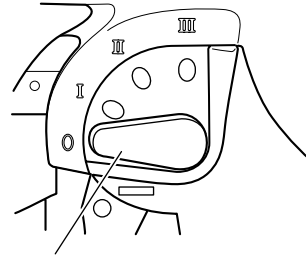

Fig. 11
(1) This Jig Saw employs orbital operation which moves the blade back and forth, as well as up and down. Set the change knob shown in Fig. 11 to "0" to eliminate the orbital operation (the blade moves only up and down). The orbital operation can be selected in 4 steps from "0" to "III".
(2) For the hard material, such as a steel plate, etc., decrease the orbital operation. For the soft material, such as lumber, plastic, etc., increase the